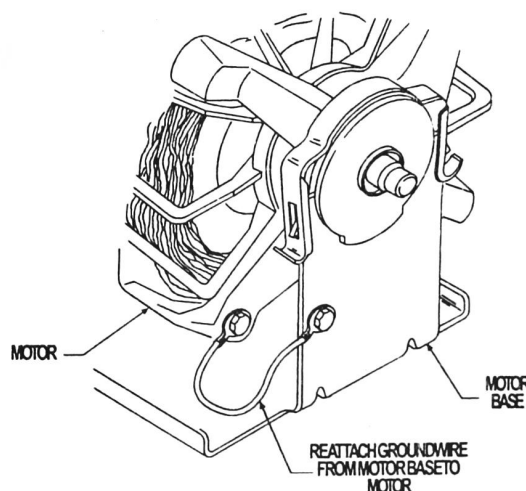

FIGURE 4
14. Reconnect ground wire to motor. See Figure 4.